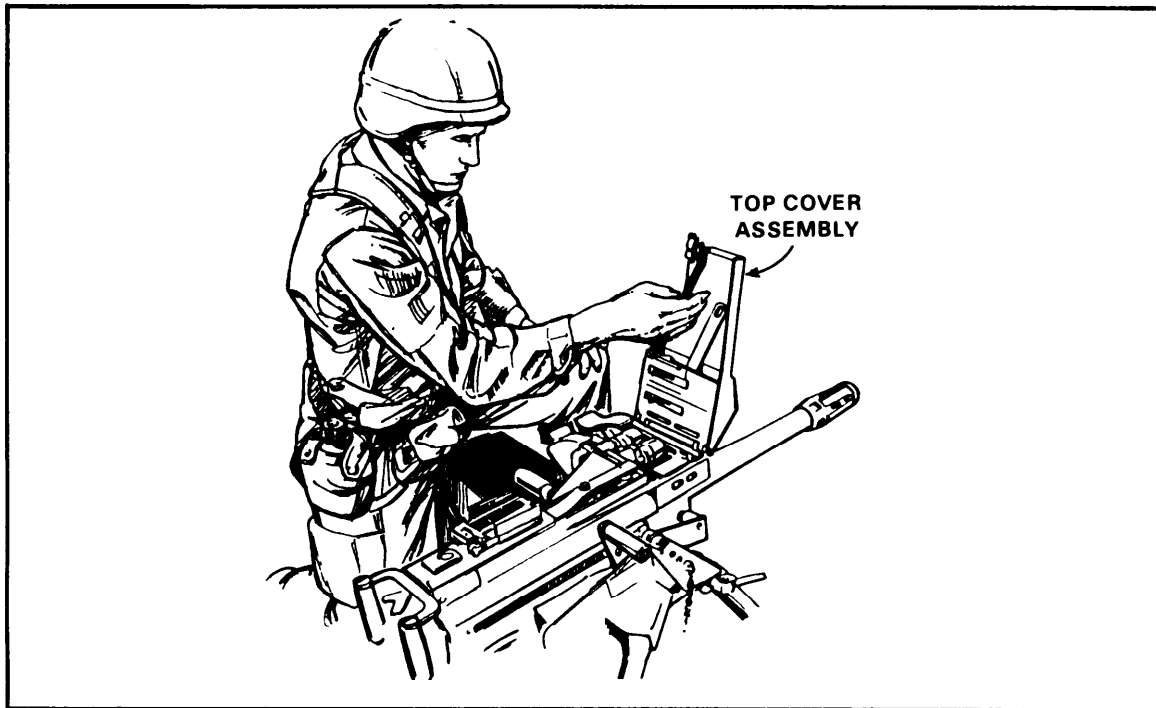

Figure 2-2. Top cover assembly.
(2) Open the top cover assembly (Figure 2-2).